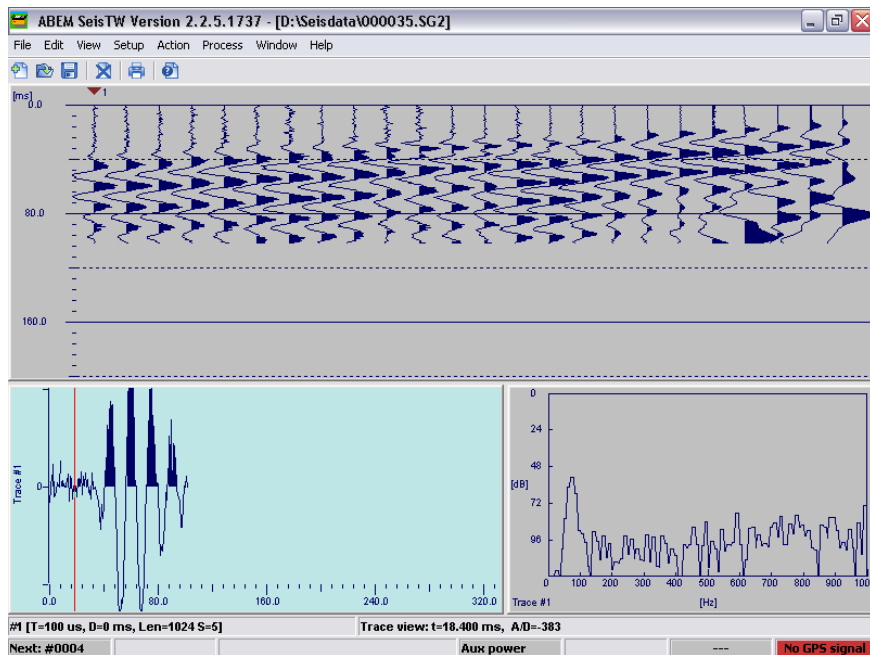

Figure 21 The red timeline
- Moving a timeline across the view (Figure 21)